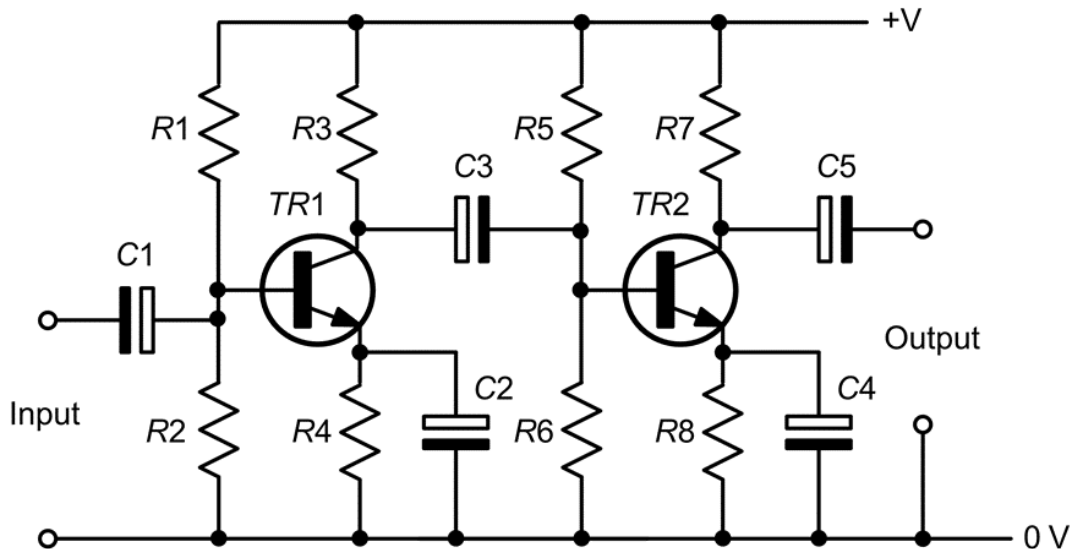

Figure 1.32 A typical two-stage high-gain R-C coupled common-emitter amplifier
- Fig. 1.32 shows a practical example of this coupling method.